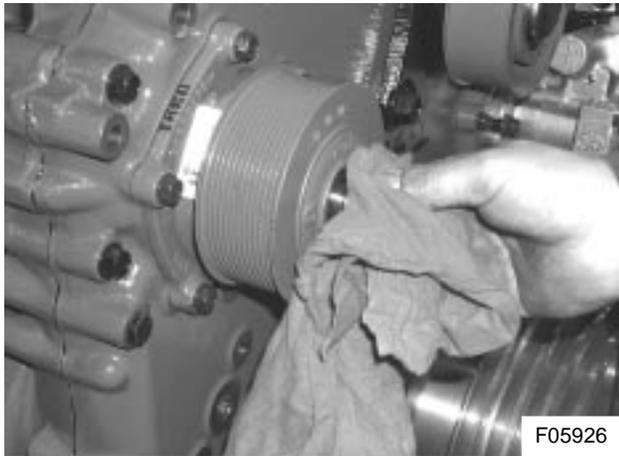

Figure 6: Removing debris with a clean cloth
- 5) Undo, remove and discard the nut. Remove any debris from the shaft with a clean cloth. Douse the thread with cleaner to remove any grease and dirt. Allow the cleaner to evaporate until dry and apply some thread locking adhesive Loctite 243 (see Figures 6, 7 and 8).